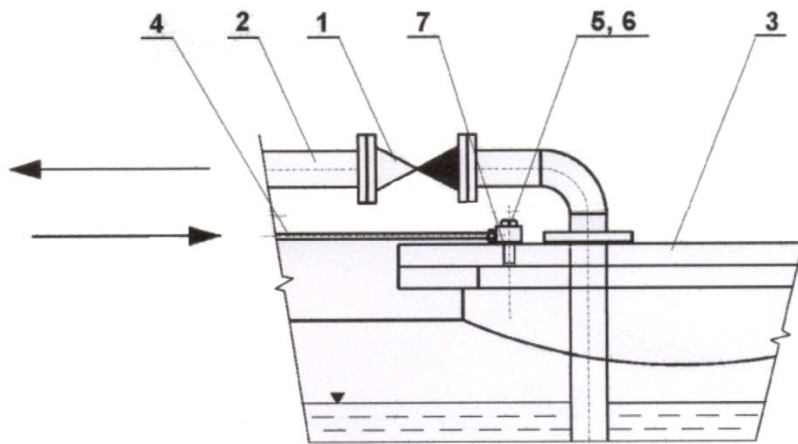

Figure 12 – Example of suction piping connecting the dispenser to a surface tank
**NOTICE** concerning surface tanks. The pumping monoblock of the dispensers is constructed with an air separator permanently open into the air bleeding chamber formed by the area in the monoblock body and the monoblock lid. In the upper wall of the lid there is a hole with an installed DN6 connection to connect the air bleeding pipe. To prevent overfilling of the pumping monoblock bleeding chamber and outflow of the medium into the dispenser interior and its surroundings while the dispenser is out of operation, in case there is any leakage or if the check valve is blocked, the **pumping monoblock air separator outlet must be connected to the storage tank**. The connection may be the pipe  $\varnothing 10 \times 1$  (DN8) connected to the pipe connector DN8. The pipe connector is screwed over the seal in a M12x1.5 hole in the monoblock lid upper wall. The pipe outlet must lead to the lid of the storage tank, using a corner pipe DN8 (see Figure 12).